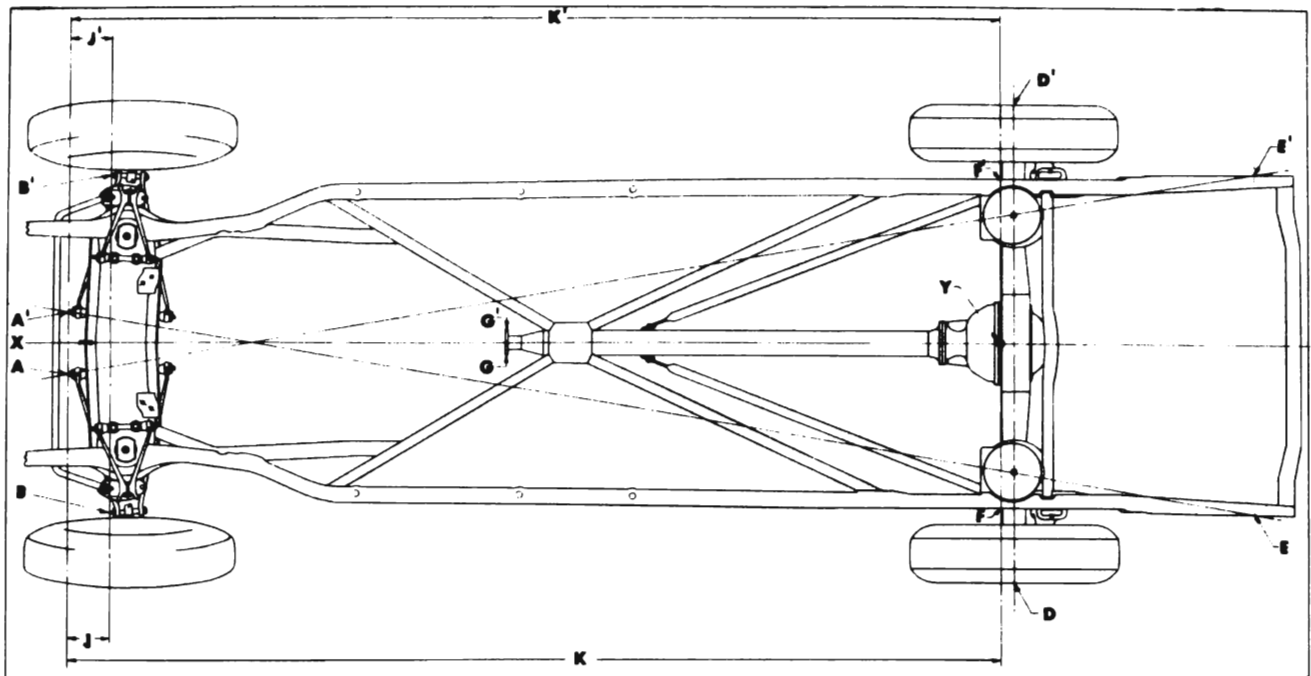

Figure 12-1—Checking Points for Frame and Suspension Alignment
1. Using a plumb bob, extend the following points to the floor and mark where point of plumb bob touches floor, as shown in figure 12-1.